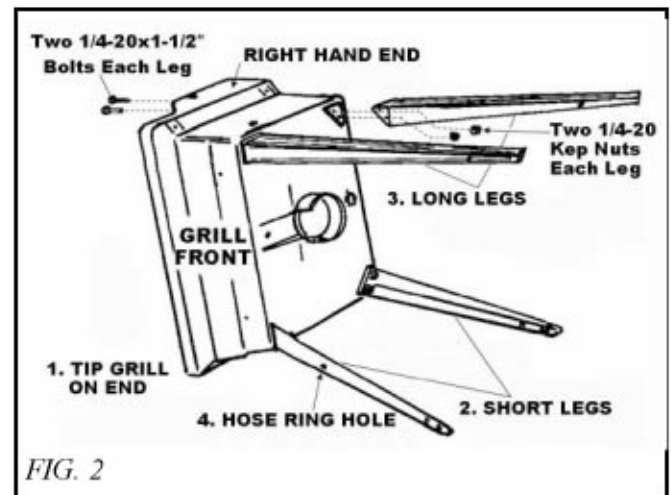

FIG. 2
### Step 1: Leg Assembly (Fig 2)
1. Tip the grill head bottom on end as shown in Fig. 2 (TIP: work on protected area such as: carpet, tarp or one of the boxes to protect cart finish).